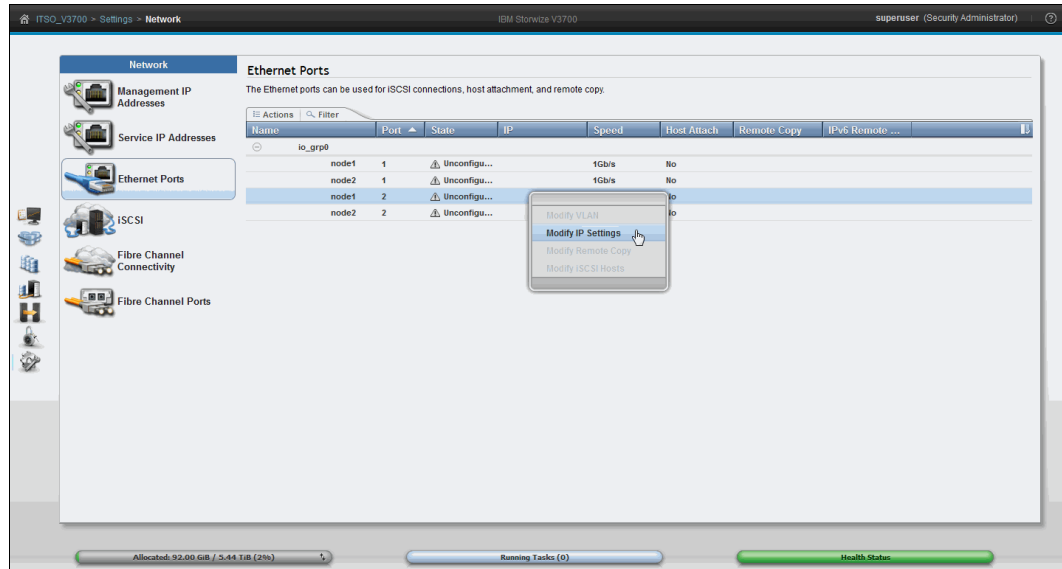

Figure 4-49 Opening the Modify IP Settings window for Node 1, Port 2
- To configure an IP address on a node port, expand the I/O Group, right-click the wanted port, and click **Modify IP Settings**, as shown in Figure 4-49.